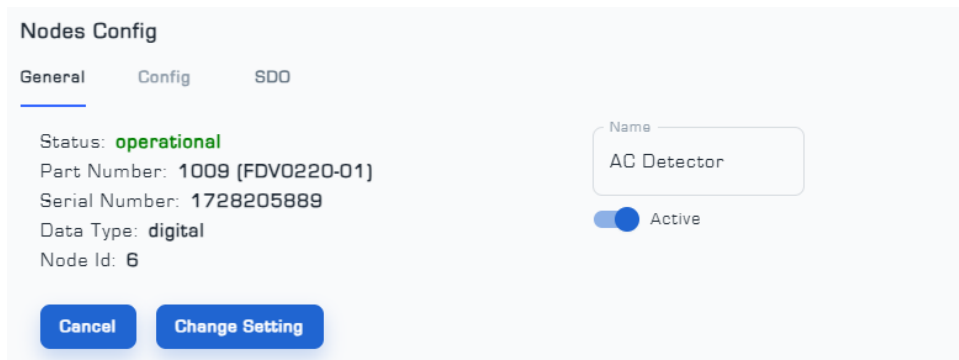

Figure 6: General Menu from Nodes Config Page
To apply the settings to the Node, click on it to display the Node settings page (Nodes Config) (Figure 6).
- The General menu includes information about the Node status, model, serial number, input data type, and Node number. You can also choose a custom name for the Node and even deactivate it if necessary (Figure 6).